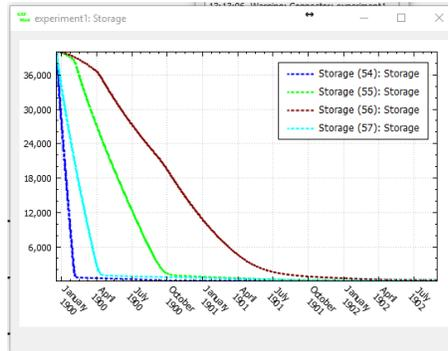

Figure 4.4: Storage variation in select blocks
- Right-click on a block of your choice and select **Plot Hydraulic Results**→**Plot Storage** from the drop-down menu that appears. You may copy and paste the results on one graph to another one for comparison. For example figure 4.4 shows the storage in blocks *Storage(54)* to *Storage(57)*. As it can be seen the pumping rate leads to a near depletion of water in the block where pumping takes place.